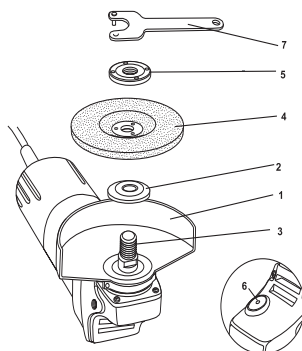

Fig. 2
• INSTALAR O REMOVER EL DISCO ABRASIVO (Fig. 2)